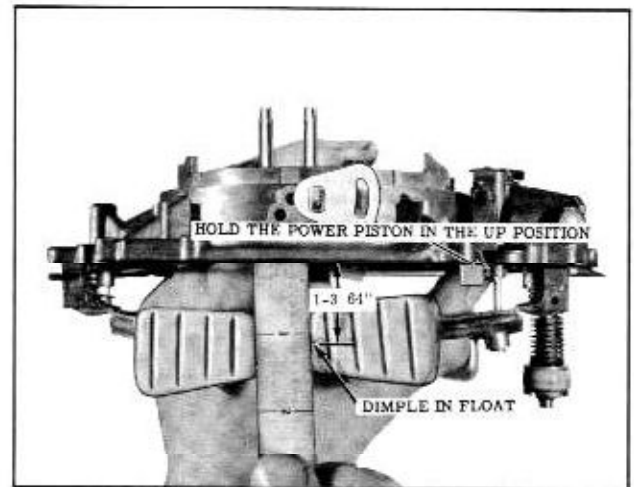

Fig. 8-121 Checking Vacuum Assist Spring Adjustment
1. Position the air horn as shown in Fig. 8-121, with the power piston retained in the up position.